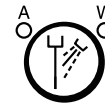

Fig.3-11 Coolant Water ON/OFF Switch
⑧ Coolant Water ON/OFF Switch (Fig.3-11) E